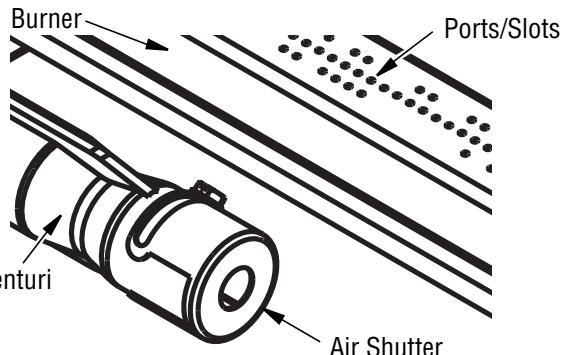

Figure 30 - Injector Holder On Outlet Burner Tube
2. Inspect burner, air shutter and orifice for dust and dirt (see **Figure 30**).